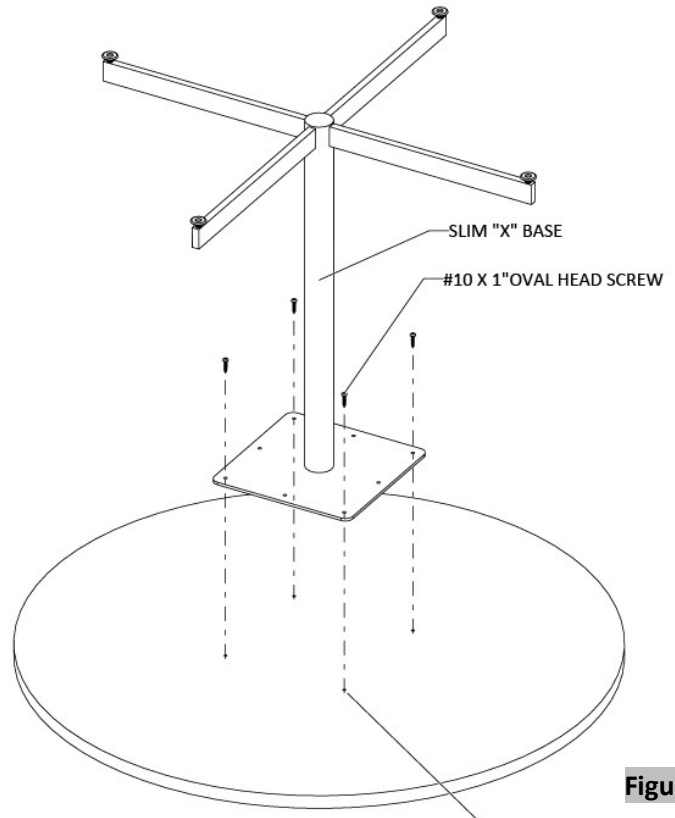

Figure 2
2. Position the slim "X" base using the pre-drilled positioning holes and attach it to round table top using #10 X 1" Oval Head Screws, (Figure 2).